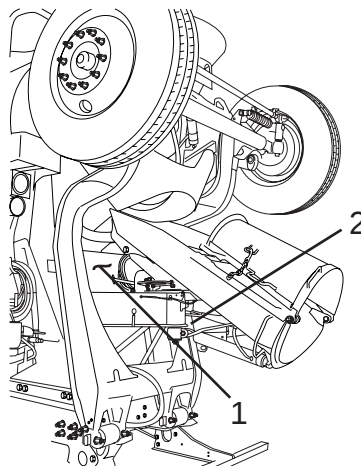

Figure 39
The hydraulic chute swing option (Figure 39, Item 1) allows the operator to move the discharge chute from the optional rear pendant.
1. Release the manual chute lock (Figure 39, Item 2).